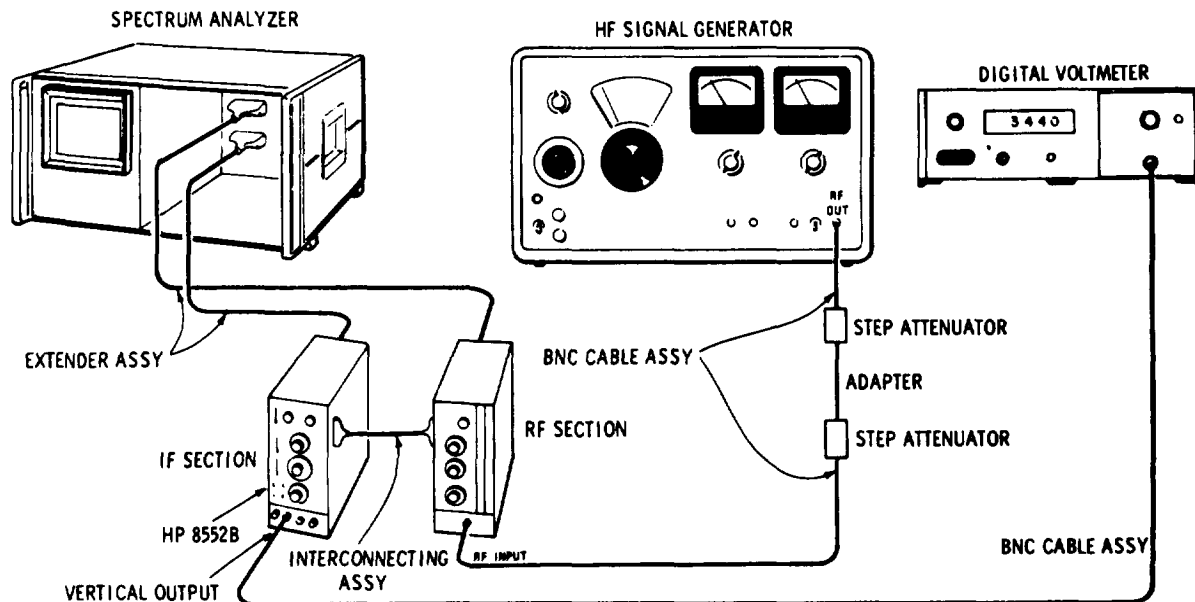

Figure 5-9. 3 MHz IF Gain Adjustment Test Setup
1. Remove the cover shield from the Al LC Filter Assembly, connect the test setup shown in Figure 5-9 and make the following control settings: